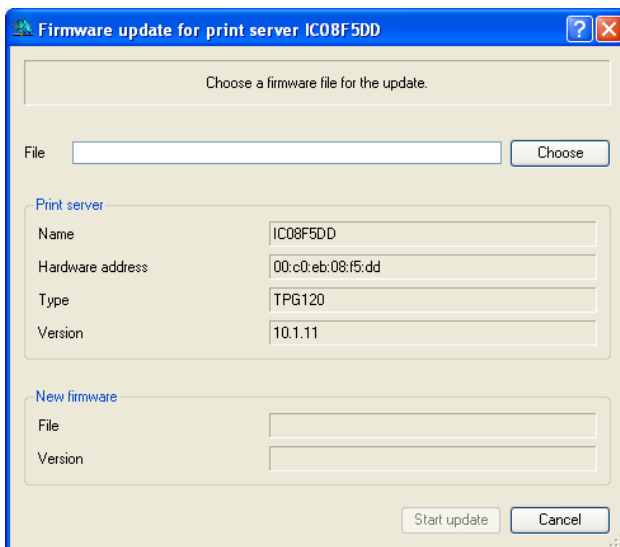

Fig. 10: InterCon-NetTool - Update
3. *Select Actions – Firmware Update – Standard Update from the menu bar. The update dialog appears; see Fig. 10 ⇨ 98.*